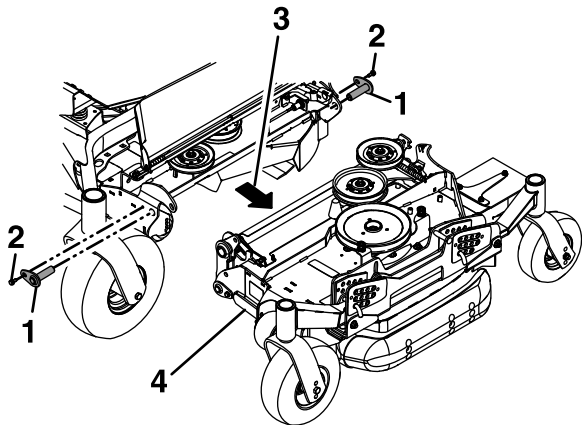

Figure 47
23. Push the left wing deck back to the center deck. Align and install the upper pivot deck pins in the front and rear of the deck and secure with the bolts that were removed previously (reference Figure 47).